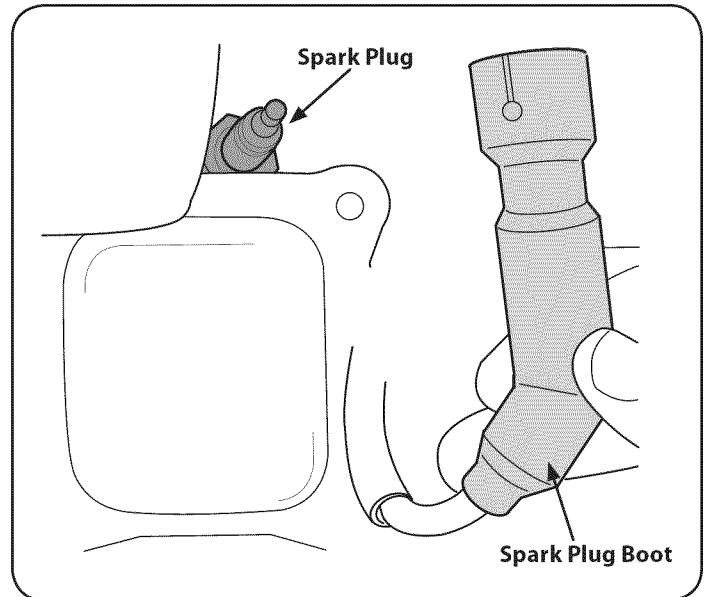

Figure 14
1. Remove the spark plug boot and use a spark plug wrench to remove the plug, Figure 14.